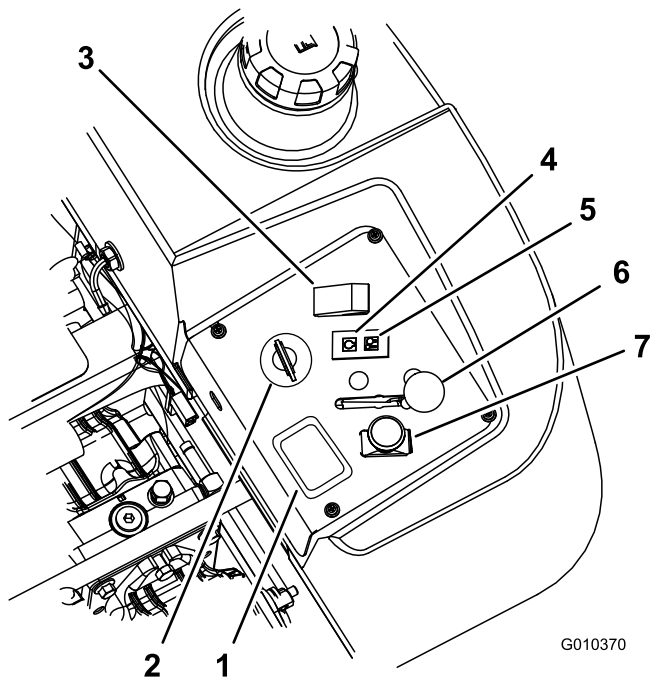

Figure 13
4. Move the PTO (power take off) switch to the off position (Figure 13).